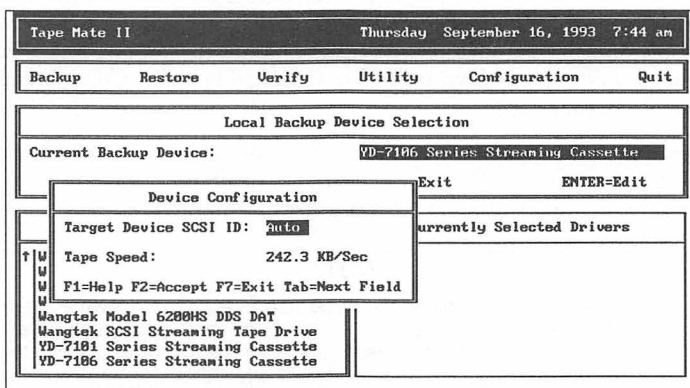

Figure 26 Device Configuration Dialog Box
- 5 If **Tape Mate II** software needs additional information for your device, a Device Configuration dialog box appears. The dialog box contains one or more of the following fields (see the example in *Figure 26*):